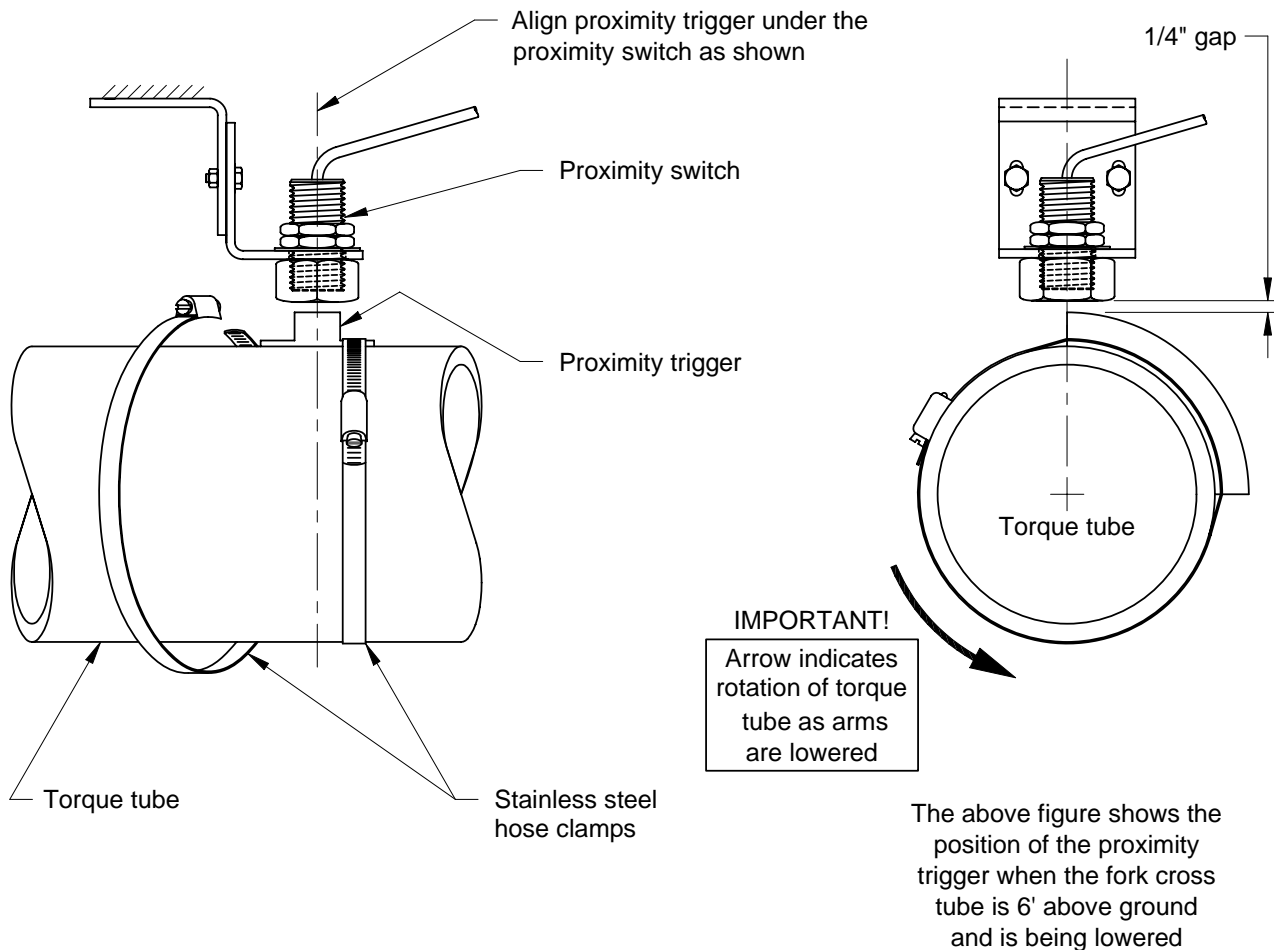

Figure 9-F
6. The proximity trigger will be mounted directly below the proximity switch on the torque tube. Clean off grease and debris from the torque tube in this area. Use the hose clamps to fasten the proximity trigger to the torque tube. Verify the cross tube is six feet off the ground before final alignment. Align the trigger with the proximity switch and set up the final installed distances as shown in Figure 9-F.